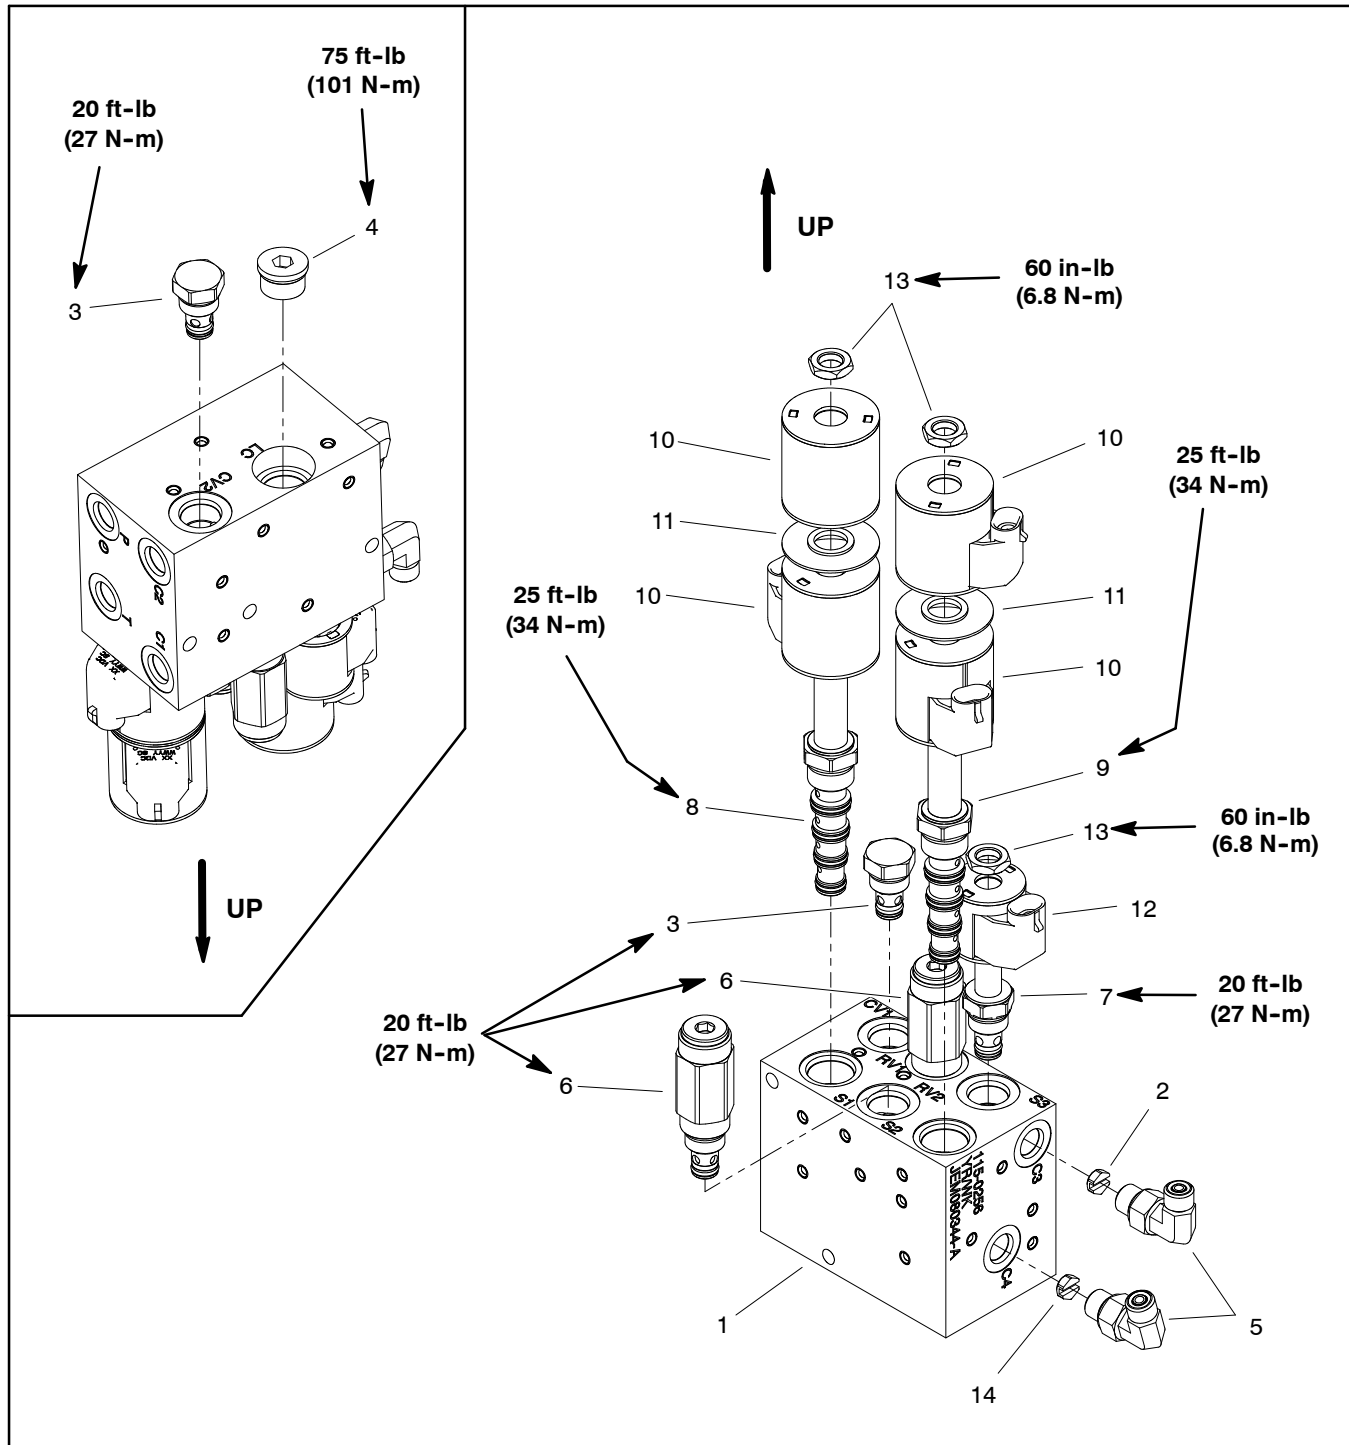
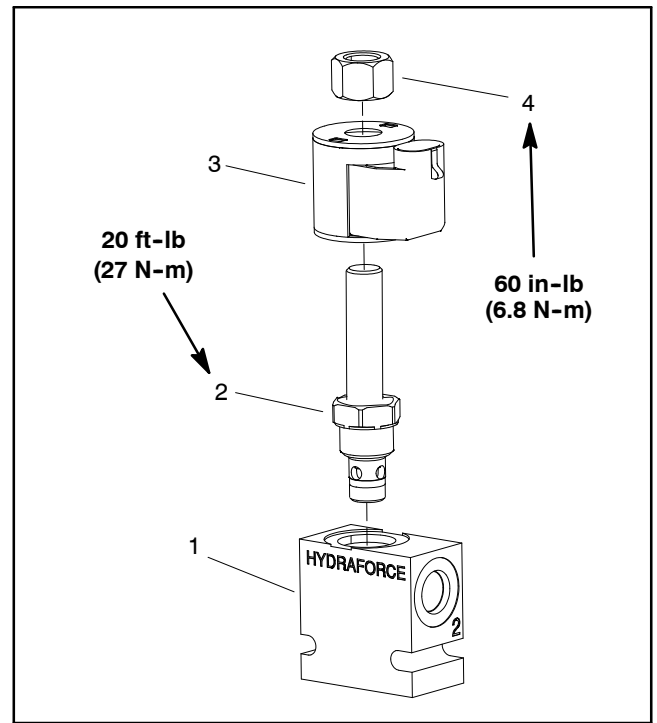

Figure 144
Figure 145
**IMPORTANT:** The solenoid cartridge valves in the QAS angle control manifold (Fig. 144) are different. Label the valves before removal so the valves can be correctly installed into the manifold.
**IMPORTANT:** An orifice is placed in ports C3 and C4 of the QAS angle control manifold (Fig. 144). If an orifice is removed from this manifold, make sure to label its position for assembly purposes. When installing orifice in manifold port, make sure that orifice is flat in the base of the manifold port. Manifold damage is possible if the orifice is cocked in the cavity.
For cartridge valve service procedures, see Control Manifold Cartridge Valve Service in this section. Refer to Figure 144 for QAS angle control manifold cartridge valve installation torque. Refer to Figure 145 for QAS poppet valve control manifold cartridge valve installation torque.